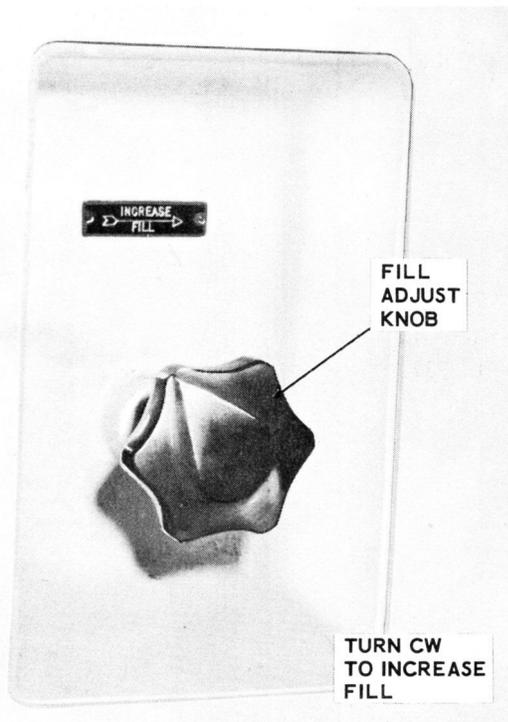

Figure 4-8. Product Fill Control
f. Perform a fill weight check. The amount of fill is adjusted by turning the adjusting knob (Figure 4-8) for each filler, clockwise to increase and counter-clockwise to decrease fill. Repeat check at regular intervals.